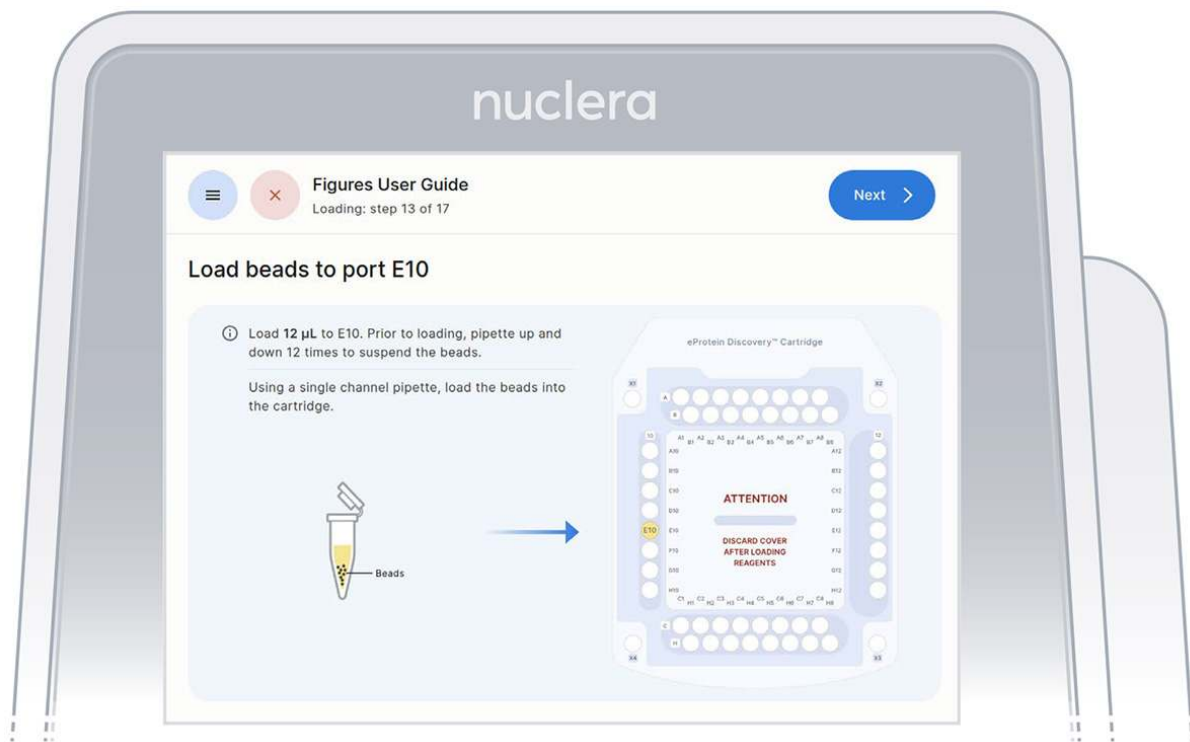

Figure 24: Loading of the Strep beads to port E10 of the cartridge
- ▶ Using a single channel p20 pipette, mix the Strep Purification Beads twelve times by gently pipetting up and down. Be careful not to introduce air bubbles. Aspirate 12 μ L of the Strep Purification Beads prepared in a tube and dispense into port E10 of the cartridge (Figure 24).